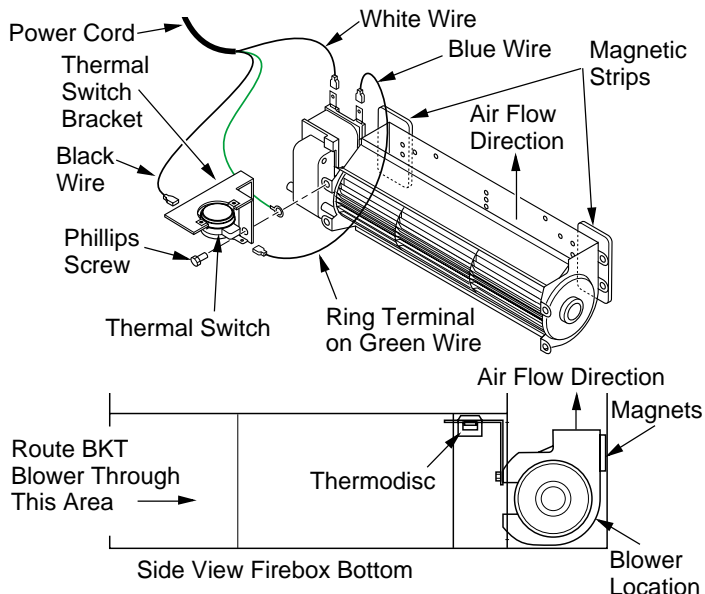

Figure 28 - Blower Model BKT
1. Place the green ground wire with ring terminal between the bottom hole on the thermal switch bracket and the top ear hole on the blower assembly. Insert the phillips screw into all three pieces and tighten securely (see Figure 28, page 18).
3. Place the blower against the lower rear wall of the firebox outer wrapper with the exhaust port directed upward and the thermodisc positioned up near the fireplace bottom. The thermodisc must be oriented near the fireplace bottom as shown in Figure 28 in order to sense temperature and properly operate. The blower will be held in position against the back wall by the magnets incorporated onto the blower housing (see Figure 28).